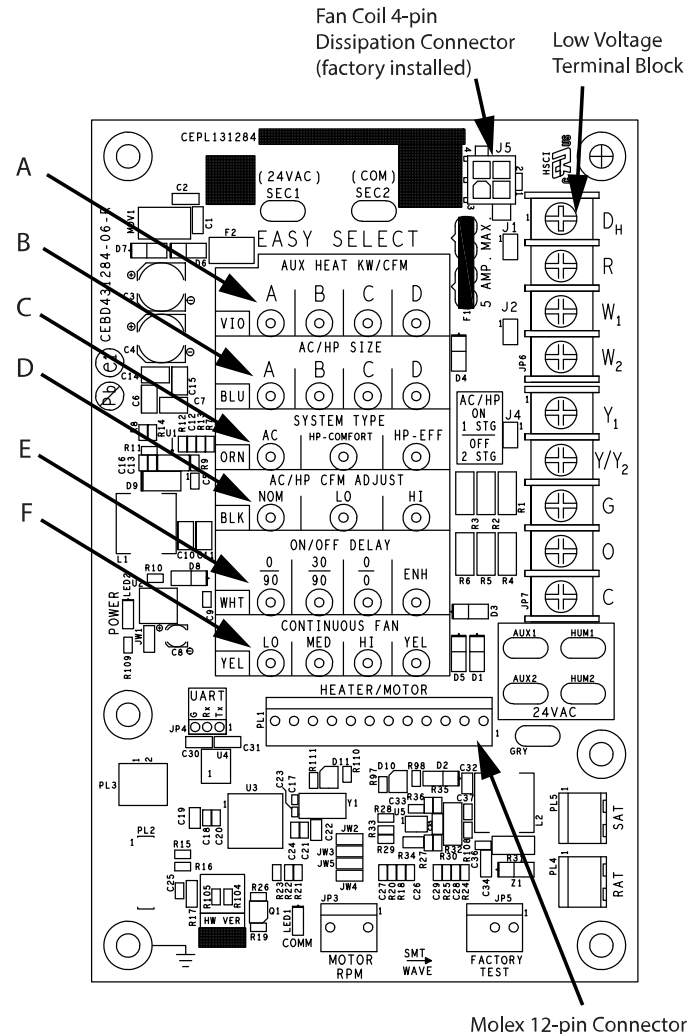
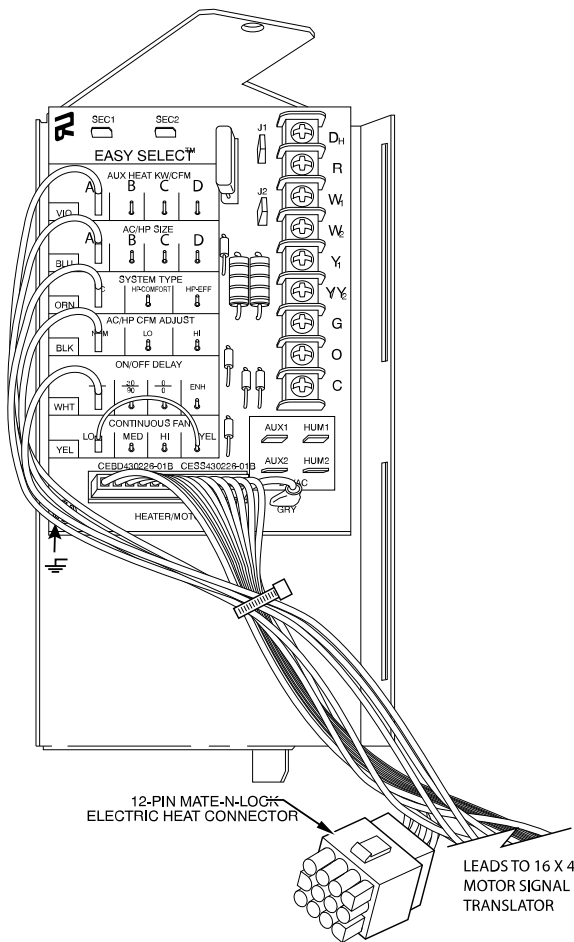

Fig. 21 – Detail of Printed-Circuit Board
Fig. 22 – Connection Detail of Printed-Circuit Board (also showing 12-pin cable), applicable to FT5, FG5
Easy Select taps are used by the installer to configure a system. The ECM motor uses the selected taps to modify its operation to a pre-programmed table of airflows (see Table 8 and Table 10). Airflows are based on system size or mode of operation and those airflows are modified in response to other inputs such as the need for de-humidification (see Fig. 21 and Fig. 22 and Table 6).
Installer must select the auxiliary heat airflow approved for application with kW size heater installed. If no heater is installed, this step can be skipped. Each select pin is marked with a range of heaters for which airflow, also marked, is approved. For increased comfort select the narrowest kW range matching the heater size, for example, 0-10 for 10-kW heater. This airflow must be greater than the minimum CFM for electric heater application with the size system installed for safe and continuous operation (see Table 11 and Table 12 for airflow delivery and minimum CFM). Note that airflow marked is the airflow which will be supplied in emergency heat mode and heating mode on air conditioners when electric heat is the primary heating source. In heat pump heating mode when electric heaters are energized, the ECM motor will run the higher of heat pump heating airflow and electric heater airflow to ensure safe heater operation. The factory selection is the largest heater range approved (see Fig. 21, A as indicated).
The factory setting for air conditioner or heat pump size is the largest unit meant for application with the model of fan coil purchased. Installer needs to select air conditioner or heat pump size to ensure that airflow delivered falls within proper range for the size unit installed. This applies to all operational modes with the exception of electric heat modes (see Fig. 21, B as indicated).
3. HP-EFF - Heat Pump Efficiency provides same airflow for heating and cooling modes to increase overall HP efficiency; approximately 350 CFM per ton. The factory setting is AC. (See Fig. 21, C as indicated.)
To provide airflow at rates described above, the AC/HP ADJUST select is factory set to the nominal (nom) tap. The adjust selections HI/LO will regulate airflow supplied for all operational modes, except non-heat pump heating modes. HI provides 15% airflow over nominal unit size selected and LO provides 10% airflow below nominal unit size selected. Adjust selection options are provided to adjust airflow supplied to meet individual installation needs for such things as noise, comfort, and humidity removal (see Fig. 21, D as indicated).
Four motor operation delay profiles are provided to customize and enhance system operation (see Fig. 21, E as indicated). Selection options are:
3. HI speed - move connector of HI, 100% cooling mode airflow (see Fig. 21, F as indicated).
The following fan coil configuration is recommended for maximum heating and cooling/dehumidifying comfort (see Fig. 21):
7. If the fan coil is installed with Heat Staging capable electric heaters, remove jumper J2 (see Fig. 21).
The AUX and HUM terminals on the Easy Select Board are tied directly to the G terminal, and provide a 24VAC signal whenever the G terminal is energized (see Fig. 21).